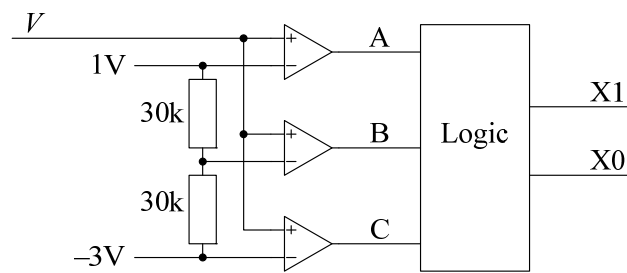

Figure 1.3
- (c) Figure 1.3 shows the circuit of a 2-bit flash converter whose input voltage, V , lies in the range -5 to $+3$ Volts and whose 2-bit signed output is given by